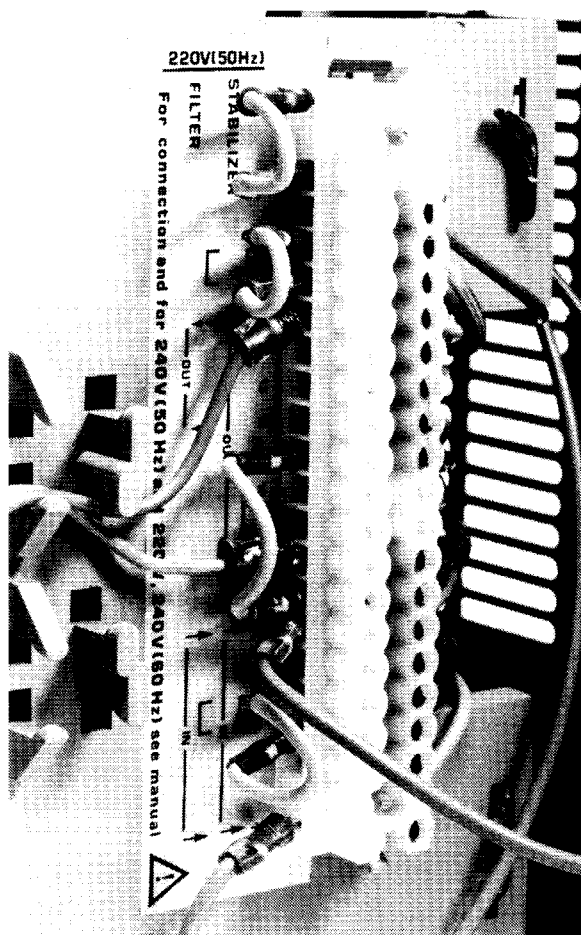

FIG. 201
5.2. MAINS INPUT (see Fig. 201)
5.3. OUTPUT ADJUSTMENTS (see Fig. 201)